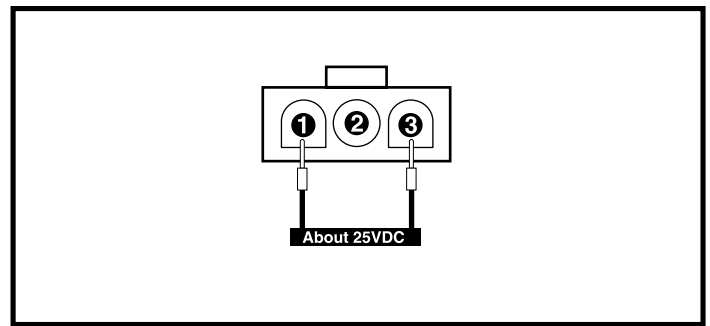

Figure 11. Connector 10a
14. Measure voltage across pin 1 and pin 3 on connector 10a. See figure 11.
- If your multimeter indicates total battery voltage (about 25VDC), then replace the battery charger (9) and retest the system.